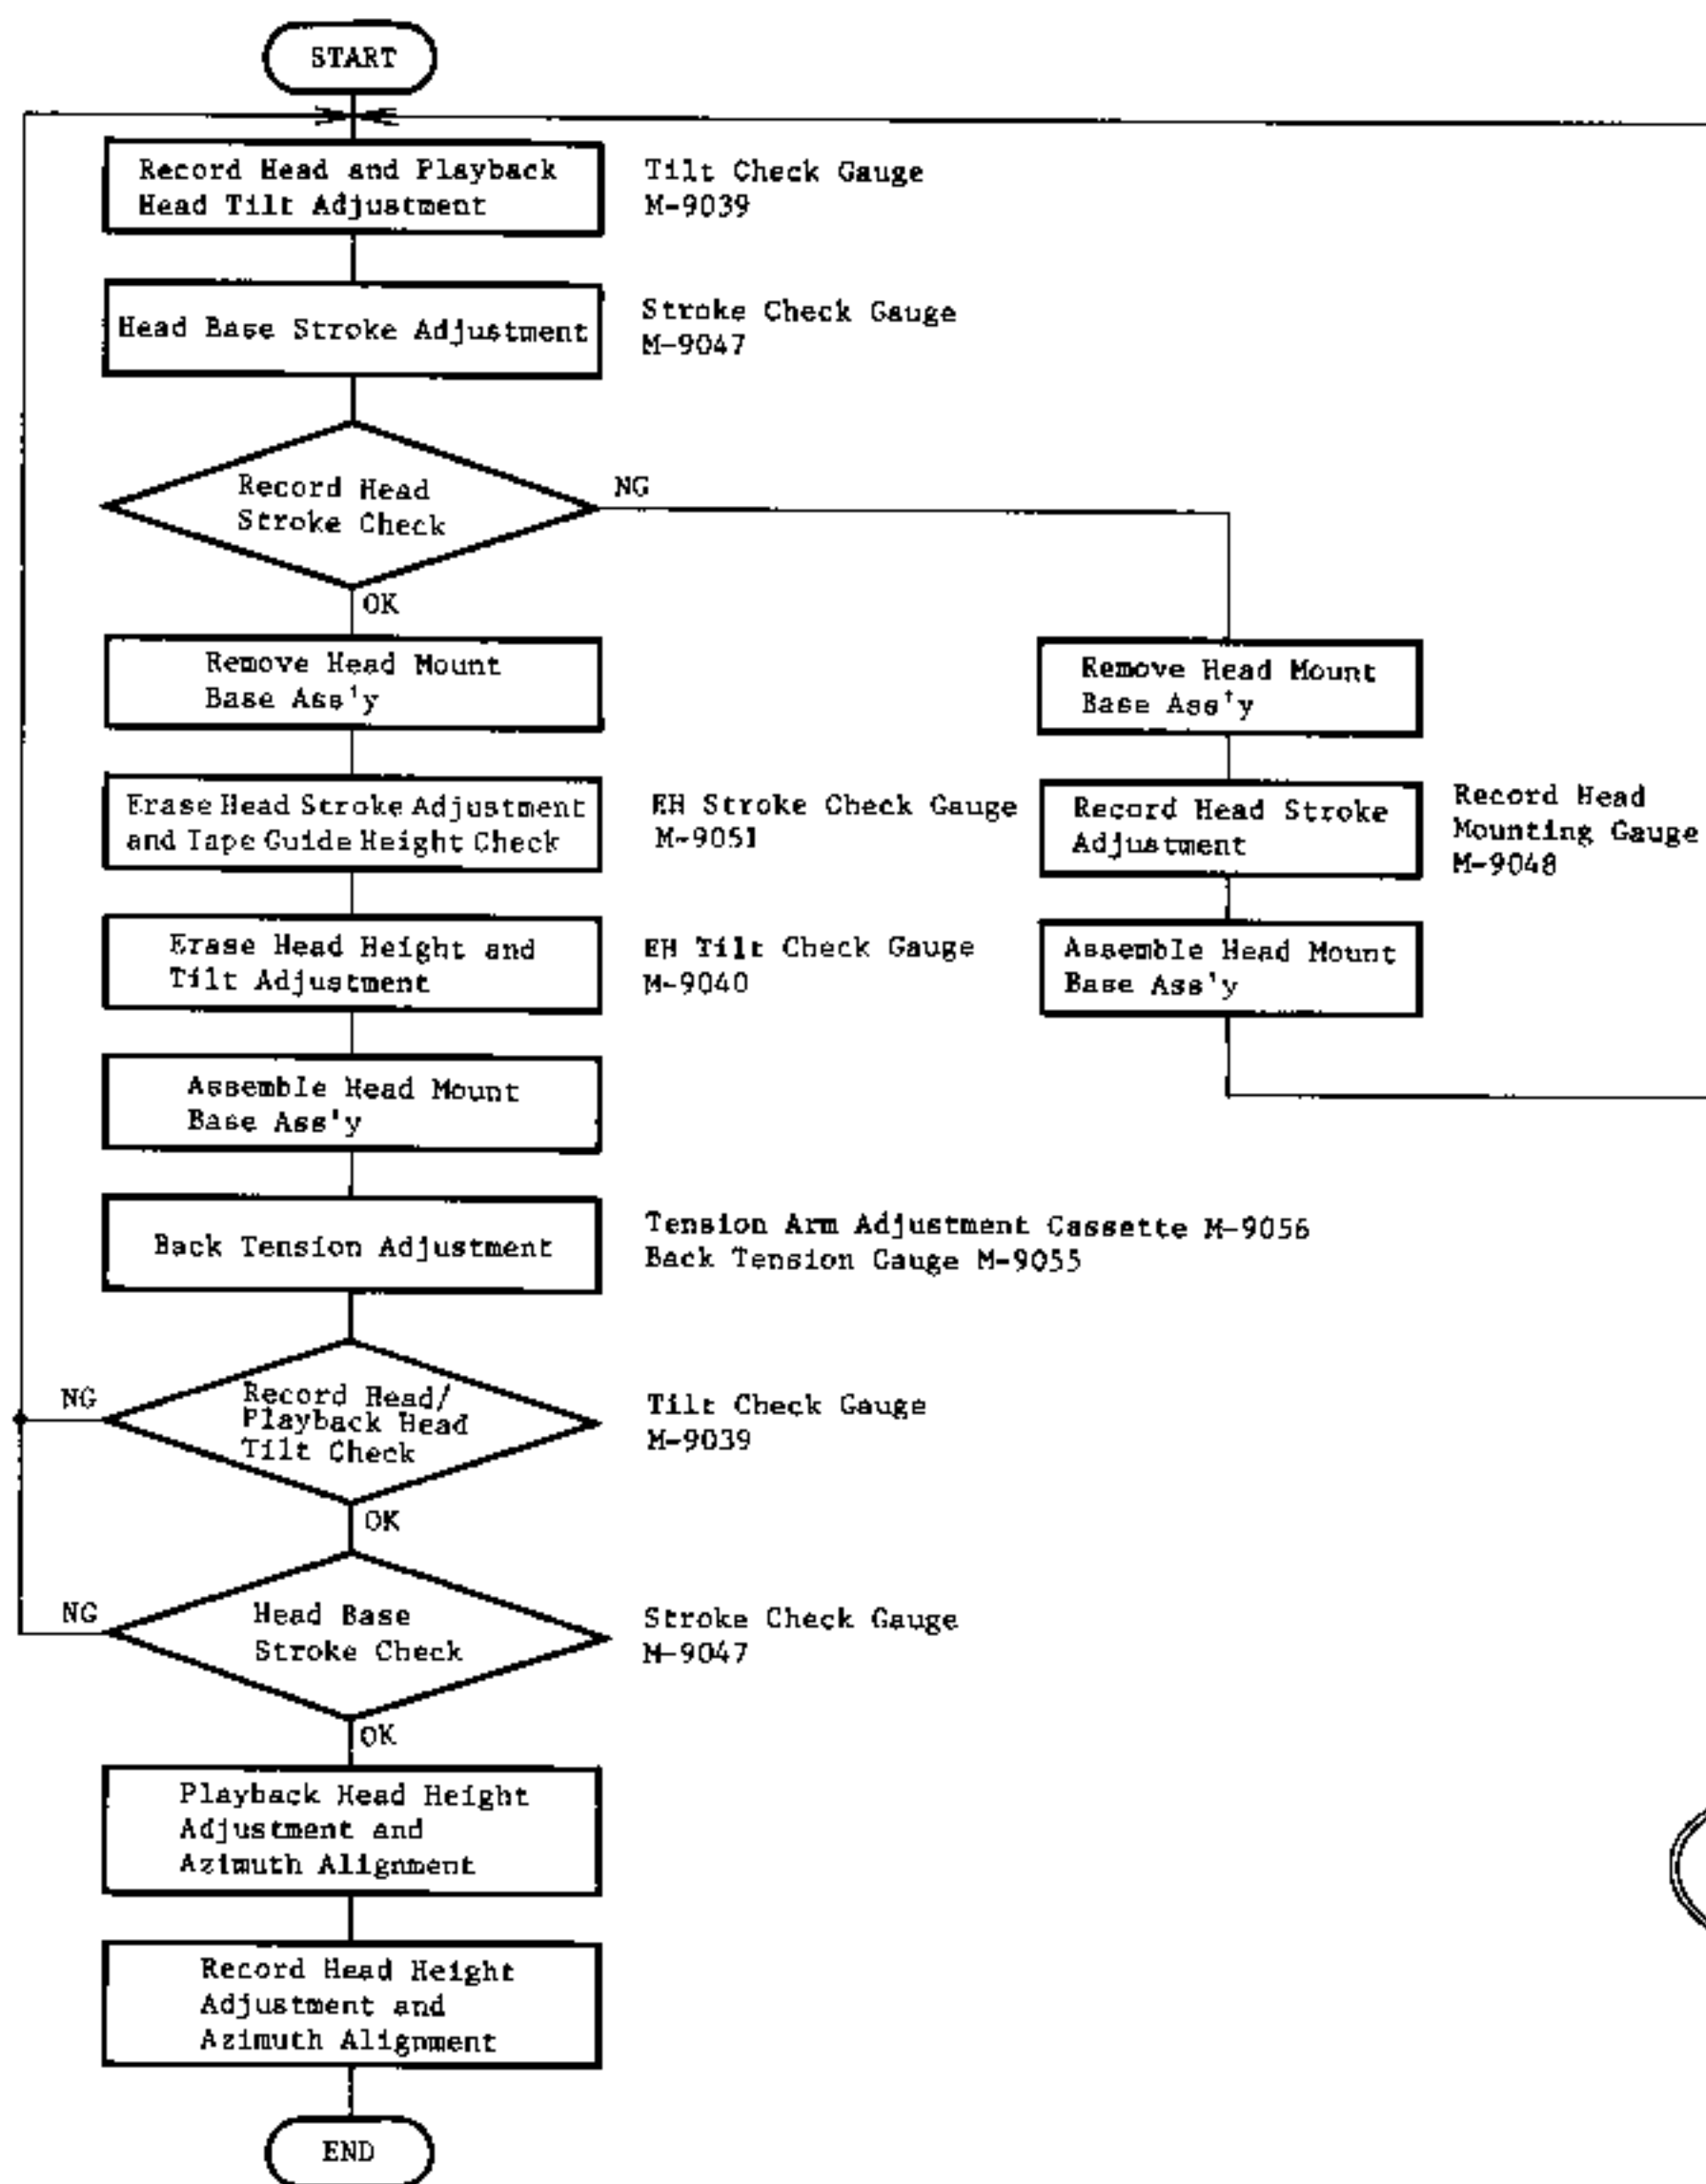

Fig. 2.2
Note: On items 2.3 - 2.9, refer to Fig. 2.2 flow chart.